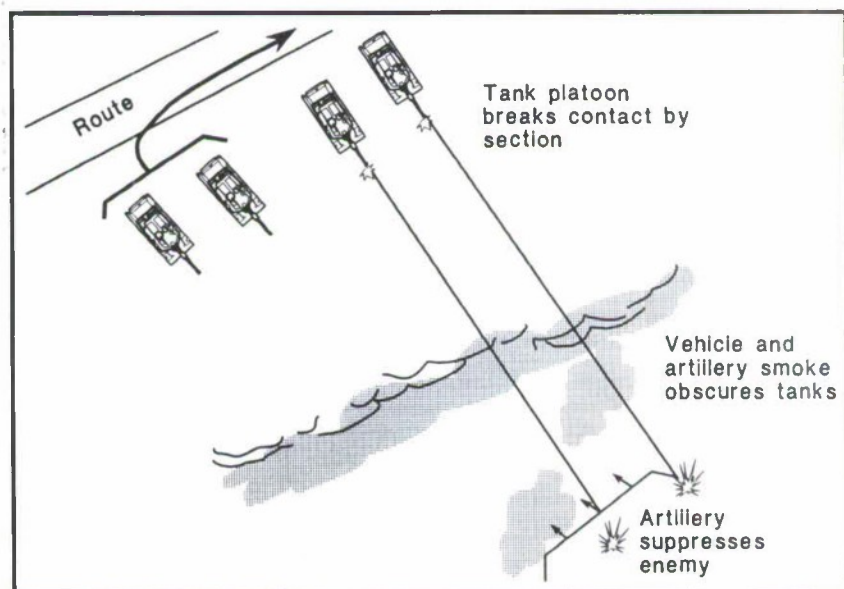

Figure 5-9C. Escort breaks contact.
- Break contact and move out of the kill zone (see Figure 5-9C).